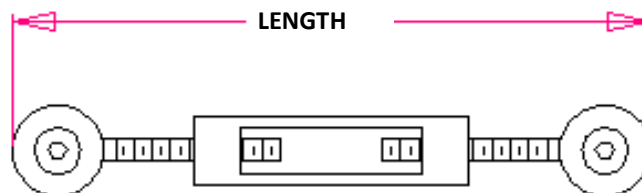

figure 4
8. Make sure that both speakers have the same angle. You can do this by measuring the overall length of the turnbuckles. When all four are the same the angles are the same. *See figure 4*